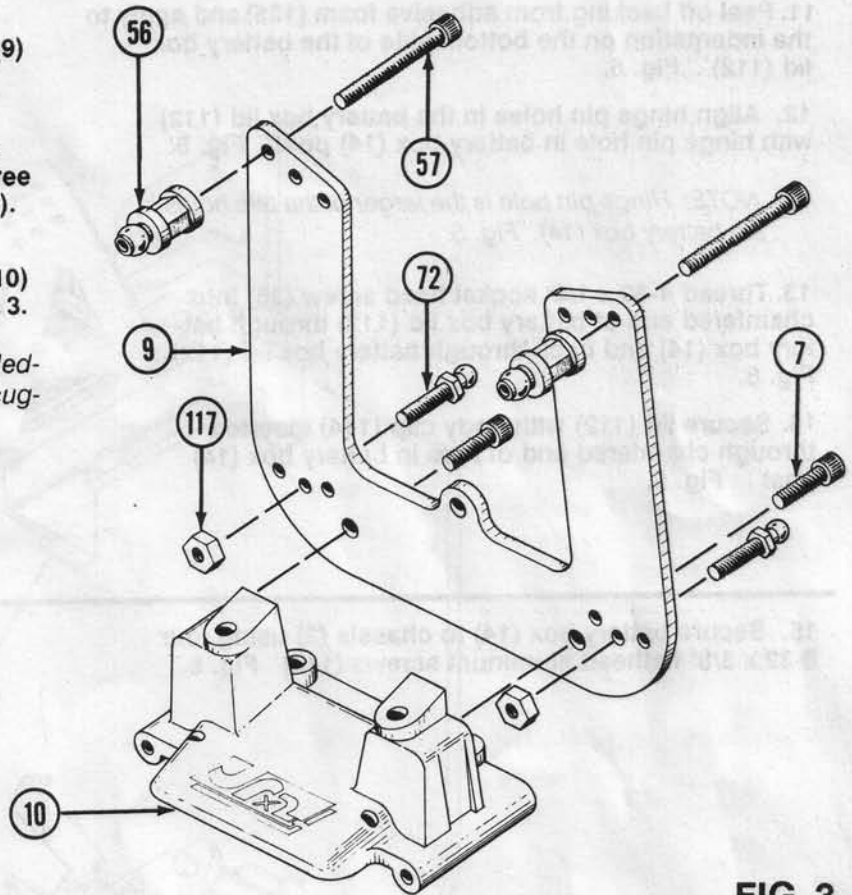

FIG. 3
7. Attach shock mounts (56) to front shock tower (9) in top outside holes using two 4-40 x 7/8" socket head screws (57). Fig. 3.
8. Fasten 3/16" studded ball joints (72) to opposite side of front shock tower (9) in the center of the three lower outside holes and secure with 4-40 nuts (117). Fig.3.
9. Secure front shock tower (9) to front bulkhead (10) using two 4 -40 x 3/8" socket head screws (7). Fig. 3.